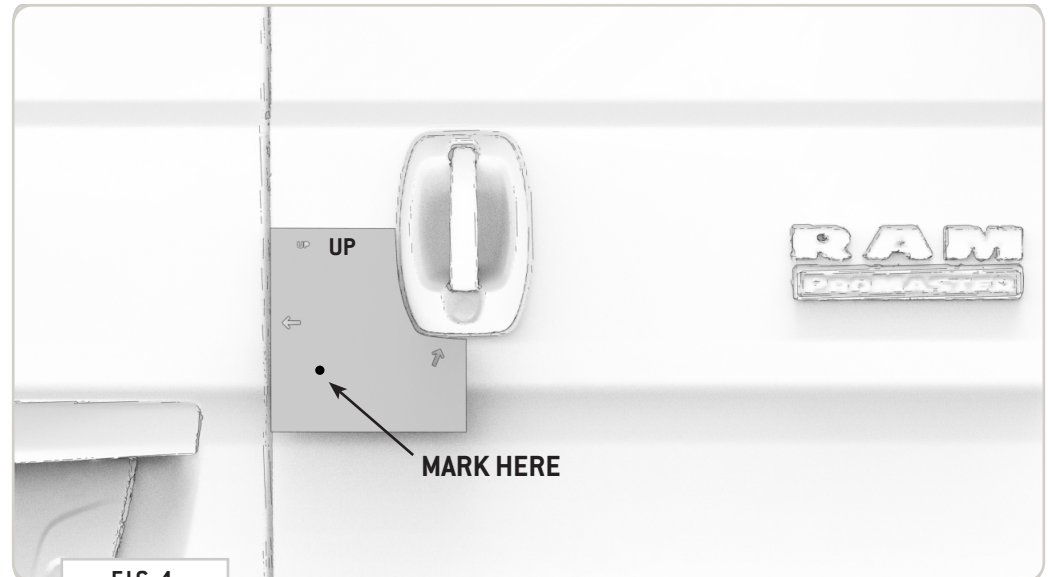

FIG 4
**2.1 Marking Front Drill Location:** Use the **Front Drill Template** to mark the outside of the rear passenger door. The arrow should align with the **Left Side Of The Door** and **Left Side Of The Grab Handle** as shown in FIG 4+5.